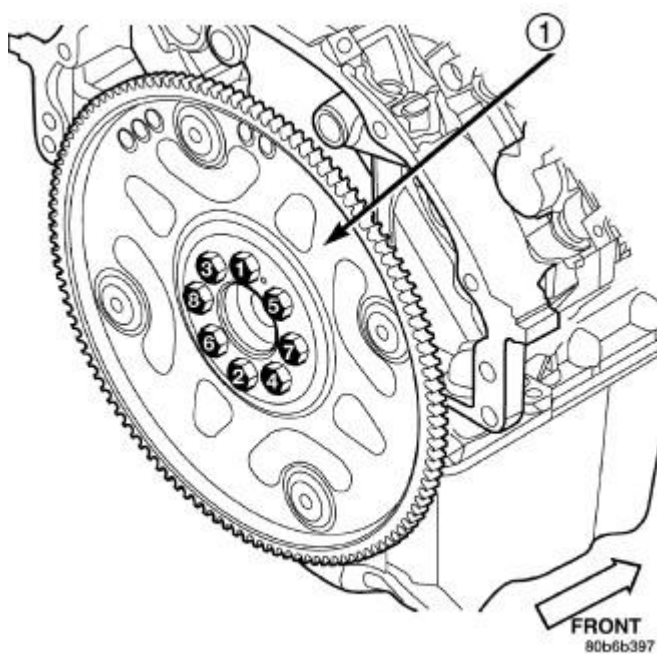

Fig. 89: Flexplate Tightening Sequence
1. Position the flexplate (1) onto the crankshaft and install the bolts hand tight.
2. Tighten the flexplate retaining bolts to 95 N.m (70 ft. lbs.) in the sequence shown in illustration. Refer to **Fig. 89**.